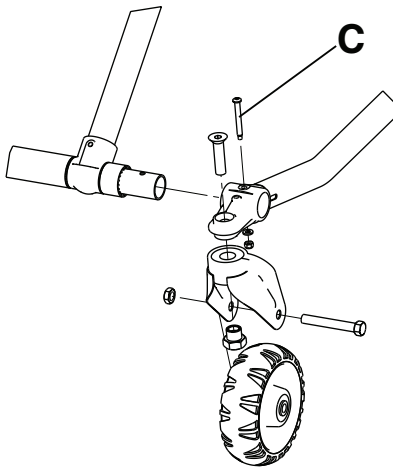

Figure 10 – Remove the caster mount bolts
4. Using a 3/8" and 7/16" combination wrench, remove all four caster mount bolts (C) that secure the outer lift tube assemblies to the foot base tubes (Figure 10).